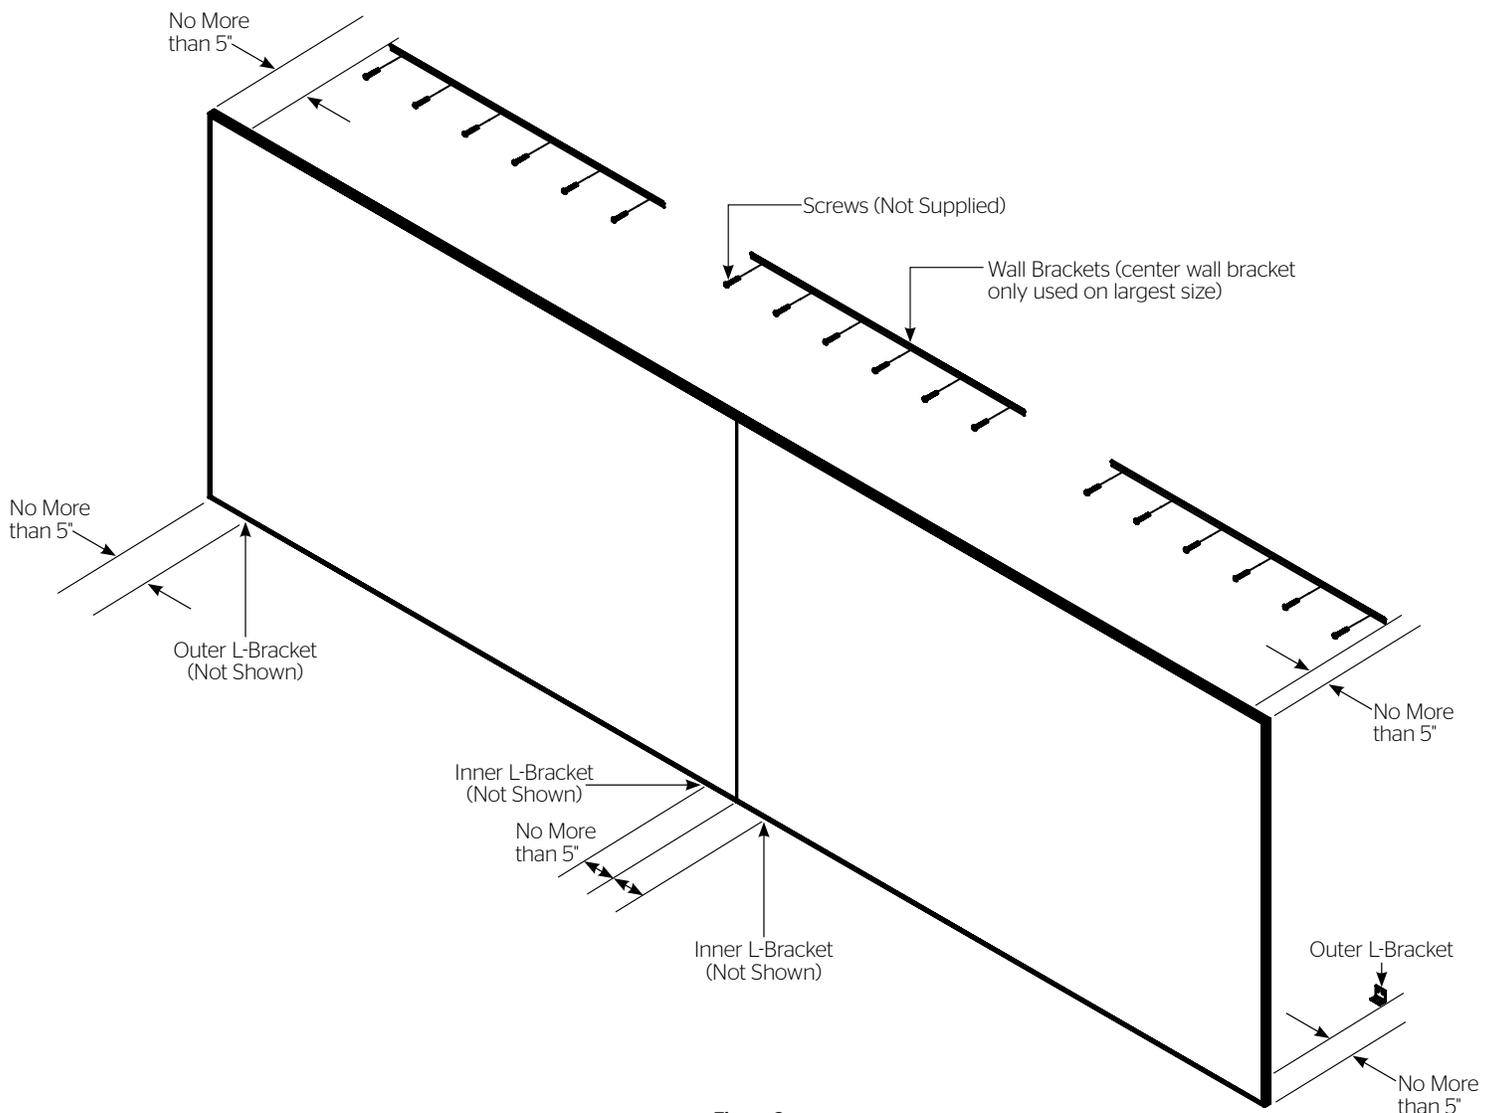

Figure 3
2. Repeat Step 1 with edge of wall bracket no greater than 5" away from the right edge of the screen. This bracket will be level with the first wall bracket already installed (Figure 3).
3. For largest size units requiring a third center wall bracket, secure remaining bracket in the middle of the left and right brackets to overlap the seam of both panels (Figure 3).
4. To install the outer L-brackets, you must measure the overall height of the screen frame and subtract 1 1/8". Using that dimension, measure down from the top edge of each of the wall brackets and mark the wall for two screw holes. The outside edge of the two outer L-brackets must be no greater than 5" away from the screen edge (Figure 3).
5. Secure the outer L-brackets to the wall at the marked locations. The longest side of the outer L-brackets should be pointing upwards when secured in order to hide the L-brackets behind the screen frame once the screen is installed (Figure 3).